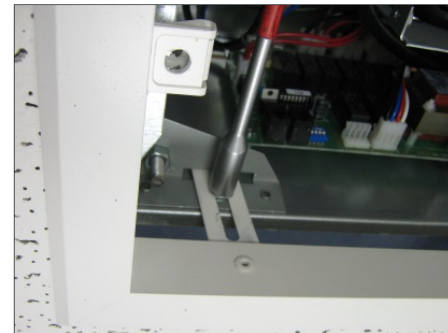

Fig 8
**Step 3** Using the M6 bolts removed in Step 1, secure grille by fixing each bolt through the slotted brackets as shown in Fig 8. With the hinged grille open, adjust the height of the grille frame via slots in each bracket, so frame is snug fit against the ceiling with no gaps all the way around.